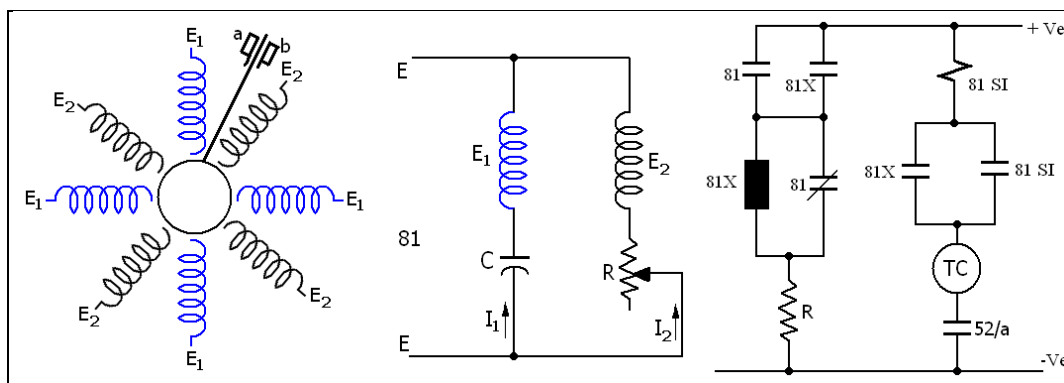

Fig. 1.5-5 Under-Frequency Relay Control Circuits
The under-frequency relay (using induction cup) has eight potential coils acting on an induction cup. The coils are connected in two groups of four coils in series,  $E_1$  and  $E_2$  as shown in Fig. 1.5-5. Coils  $E_1$  passes current  $I_1$  through capacitor (C), and coils  $E_2$  passes current  $I_2$  through adjustable resistor R. The coils are designed so that current  $I_1$  lags current  $I_2$  at the normal frequency of 60 cycles, and the fluxes of the two currents produce a torque that keeps contact (81/b) closed.